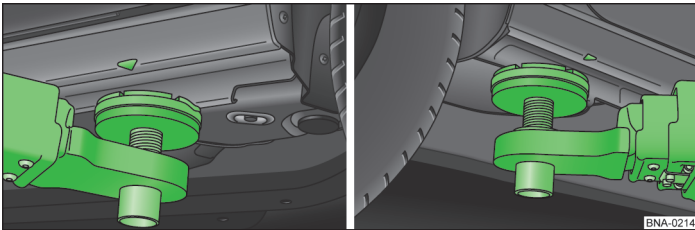

Fig. 68 Front and rear jacking points to lift the vehicle with a lifting platform or car jack
The vehicle may be lifted only at the points shown in figures **» fig. 68**. If the vehicle is not lifted at the points shown, damage to the vehicle **» ⚠** or serious injuries may be caused **» ⚠**.
- Lift the vehicle only at the points shown in figures **» fig. 68**. If the vehicle is not lifted at the points shown, the vehicle may fall off the lifting platform, for example, when the engine and gearbox are removed.